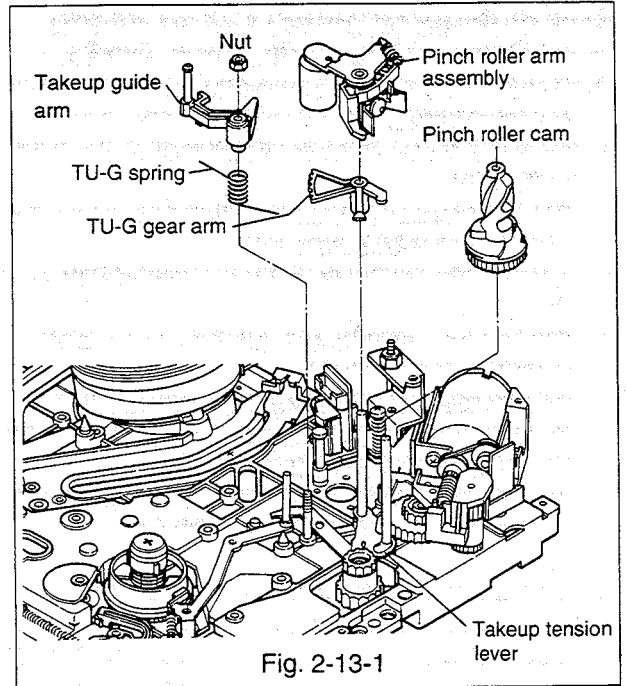

Fig. 2-13-1
### 2-13-1 Removal(Refer to Fig. 2-13-1.)
### 2-13-2 Installation(Refer to Fig. 2-13-1~2-13-3.)
- C. Turn the takeup tension lever fully clockwise as shown in Fig. 2-13-1.
- E. Assemble the pinch roller arm assembly to the shaft on the main plate.(Refer to Fig. 2-13-1.)